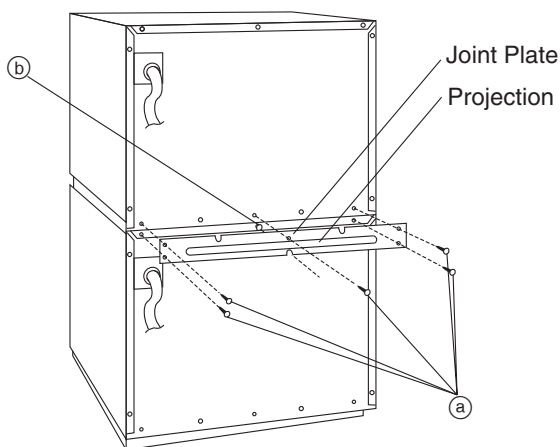

Fig. 1
- Stack the units and remove five screws (a) as shown in Fig. 1.